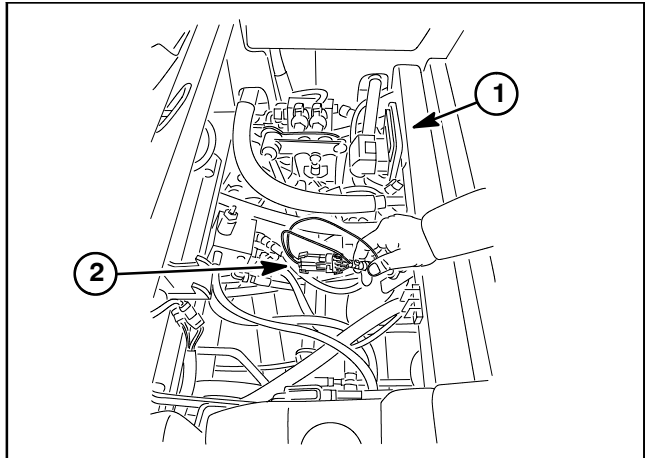

Figure 14
2. Tilt and support operator seat to access TEC controller. Locate wire harness and connectors near TEC controller. Carefully unplug loopback connector from harness connector (Fig. 14).